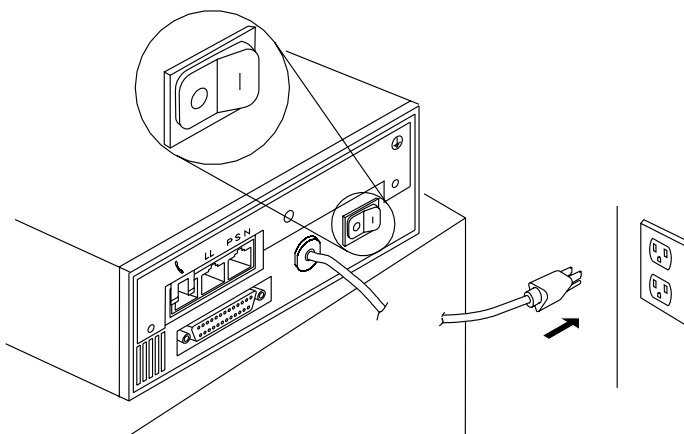

Figure 1-91. Connecting ac Power
1. ____ **Be sure** that the **power switch** located on the modem's rear panel is **off** as shown in Figure 1-91 on page 1-80.